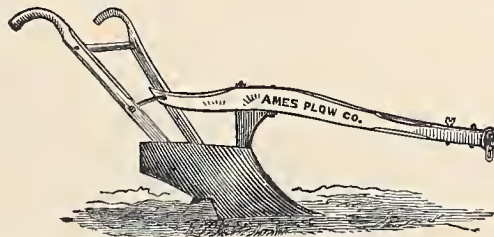

Fig. 272.—Boston Steel Clipper Plows, X 00 and X 0.
**Boston Steel Clipper Plows, X 00 and X 0**, Fig. 272, are both small, intended for use at the South and elsewhere in preparing and cultivating old ground, and require the draft of a small horse or mule.